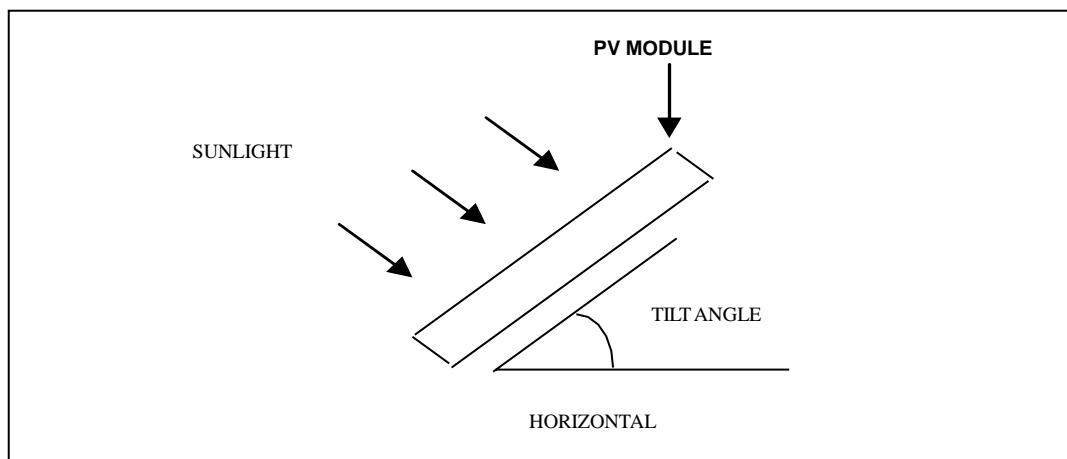

Fig. 7-1 Tilt angle
- Installation inclination refers to the Angle between the solar photovoltaic module and the ground plane, as shown in Figure 7-1.